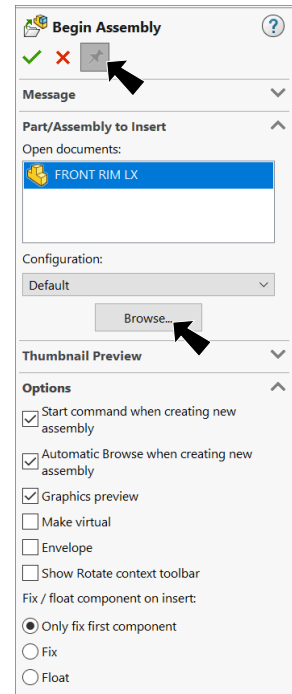

Fig. 1
click **Keep Visible** , **Fig. 1**
Step 4. Click **Browse**  in the Property Manager, **Fig. 1**.